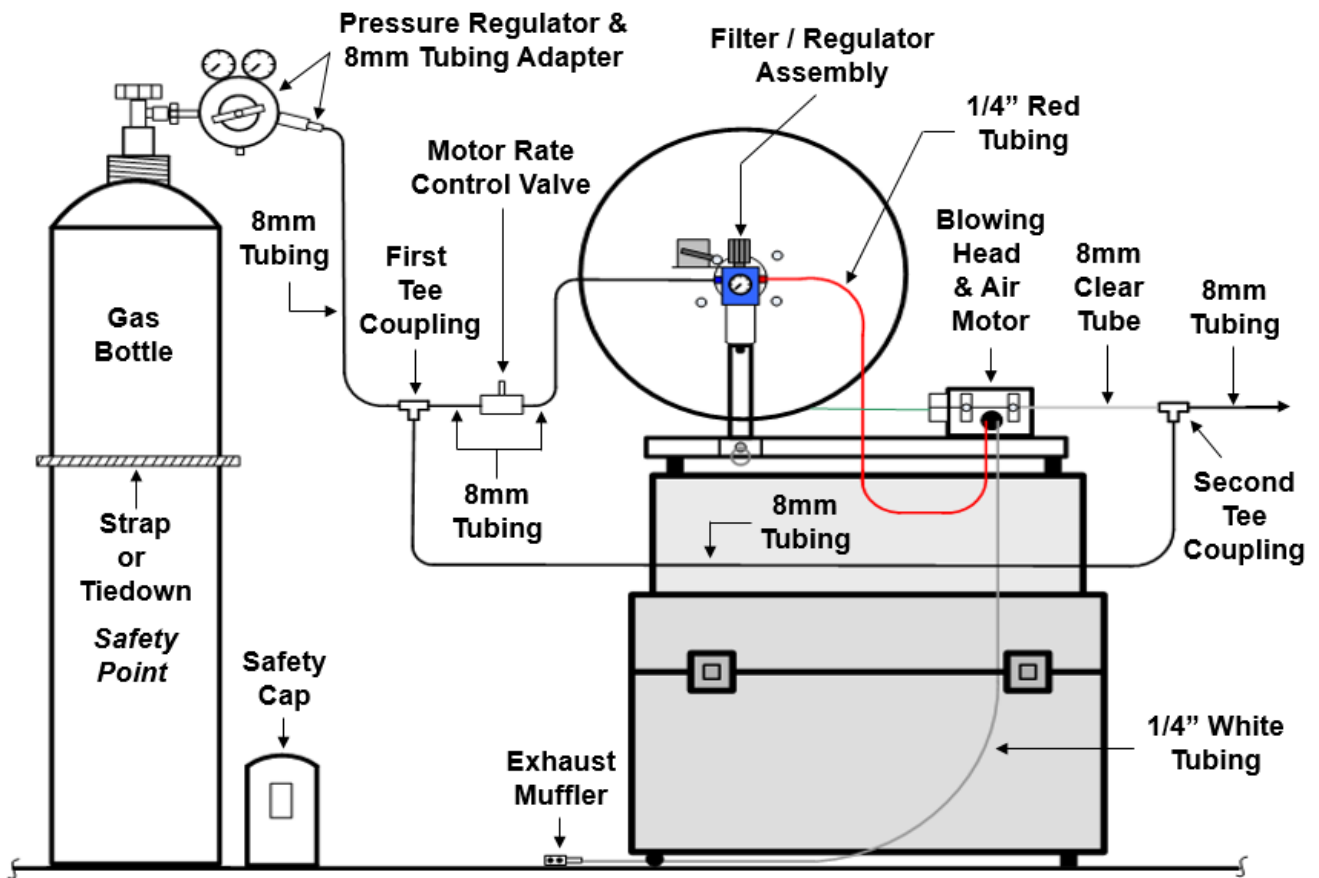

Figure 60
5.1 See Fig. 60 for Older Transit Case Blowing Head Equipment layout.